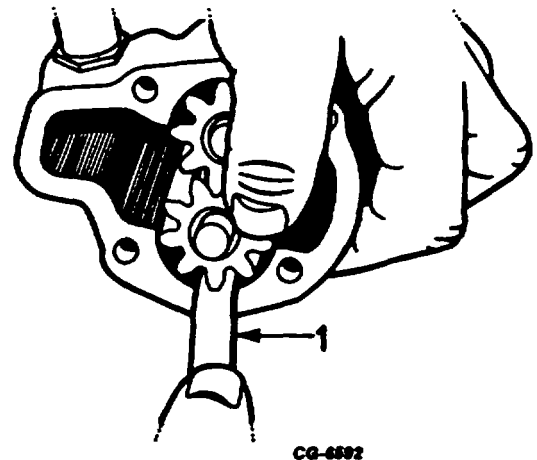

Figure 179. Measuring Pump Gear-to-Body Clearance
- 3. While holding gears in this manner, measure clearance between outside diameter of gear and bore of housing (Figure 179). Clearance should be within limits given in SPECIFICATIONS.